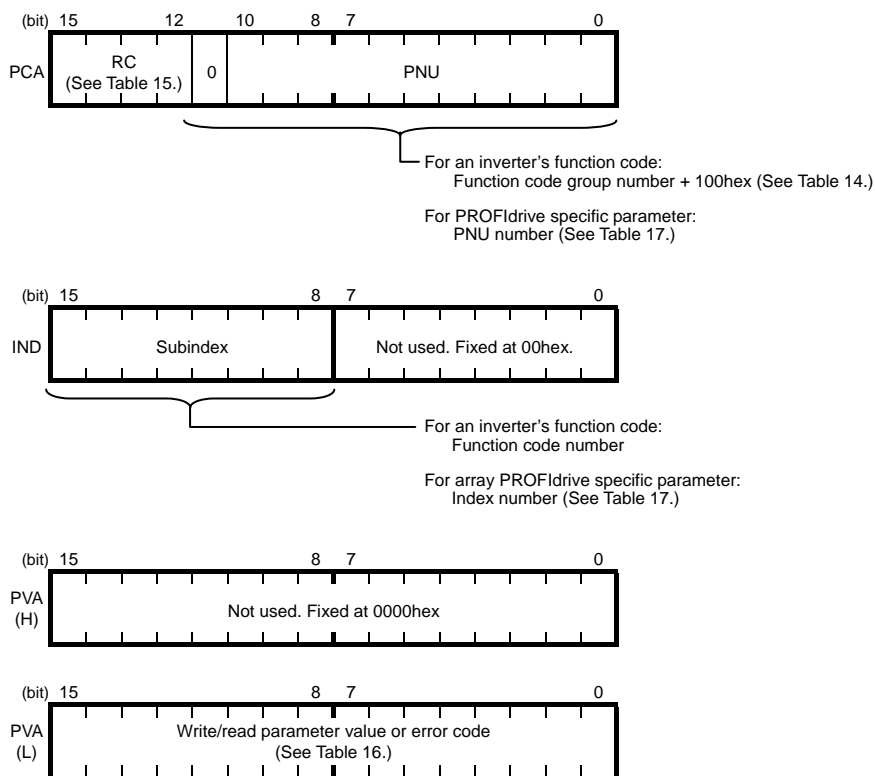

Figure 16 How to Access Parameters
- 1) Specify the target parameter to be accessed using PNU and Subindex areas (see Figure 16).